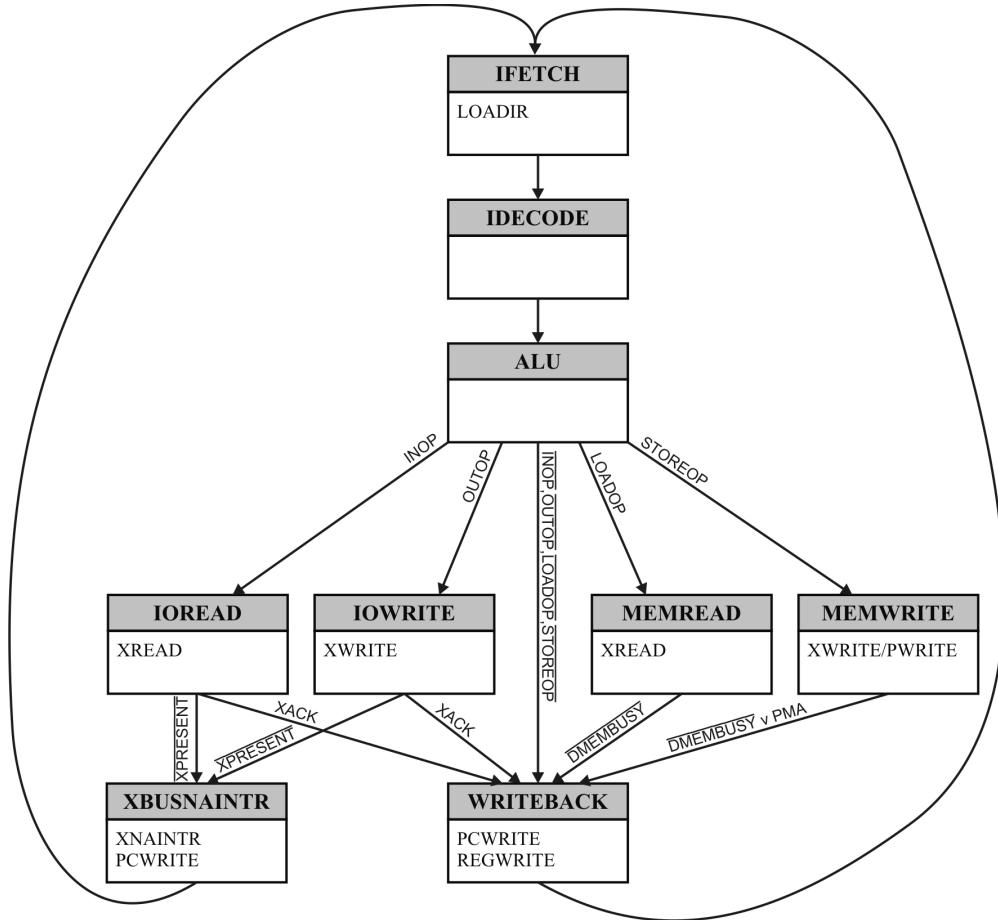

Figure 9.2: Control state automata.
Figure 9.2 shows the finite state machine of the module CONTROL. This state machine contains 9 states: IFETCH (instruction fetch), IDECODE (instruction decode), ALU (ALU operation), IOREAD and IOWRITE (XBus operations), XBUSNAINTR (XBus peripheral does not exist), MEMREAD and MEMWRITE (program or data memory access), and WRITEBACK (increment the program counter and write ALU result into register).
- XWRITE and PWRITE are only set in the states depicted in Figure 9.2, otherwise they are 0.